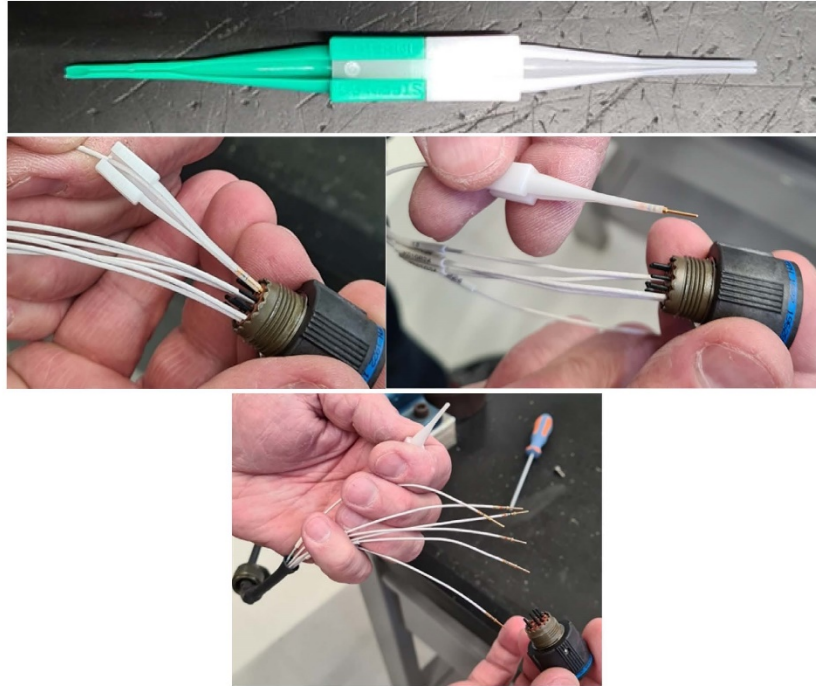

Figure 11 – Removal of the connector
8. Refer to Figure 11. Remove the wiring from the connector (4) as follows: